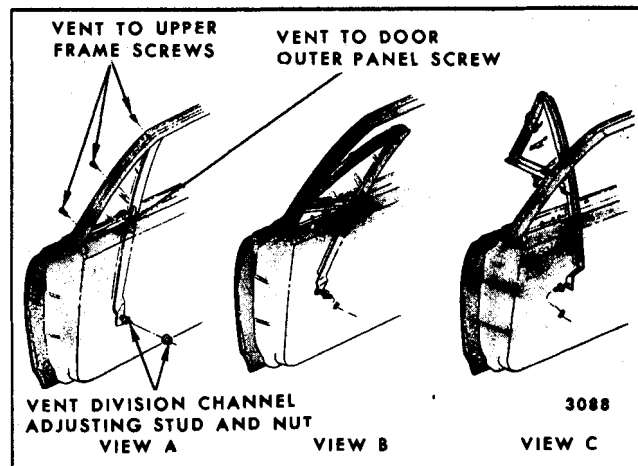

Fig. 6-66-Front Door Ventilator Removal
3. Lower door window and remove ventilator division channel lower adjusting stud nut and ventilator to door outer panel attaching screw (View "A" in Figure 6-66).
4. Remove ventilator to door upper frame attaching screws (View "A", in Figure 6-66).
5. Lift ventilator rearward and upward until lower forward corner of assembly is free of door upper frame (View "B" in Figure 6-66).
6. Rotate ventilator assembly in an outboard movement and remove unit outboard of door upper frame (View "C" in Figure 6-66).